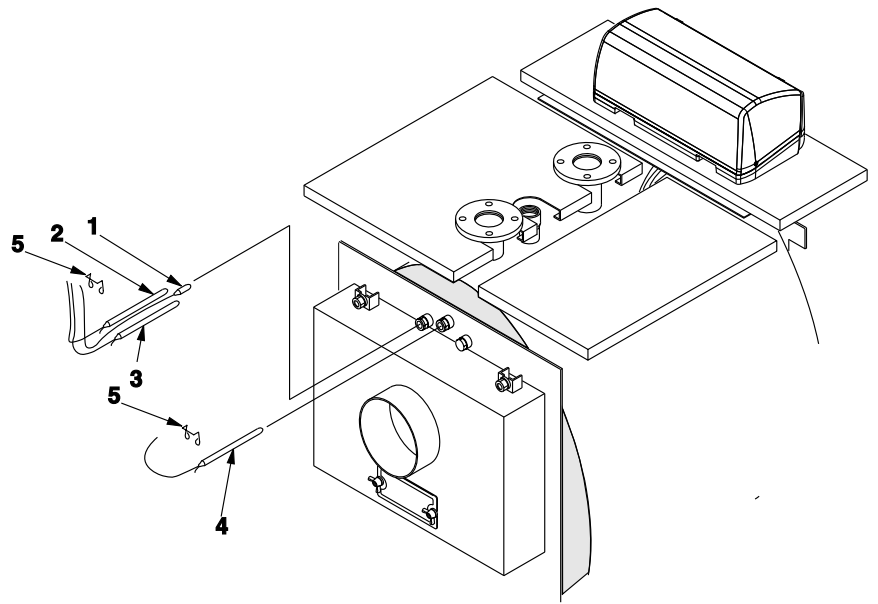

fig. 21
E) Insert the thermometer and thermostat bulbs in the bulb holders as shown in fig. 21 and connect the mains, the burner, the pump(s) and any ancillary equipment to the panel board.